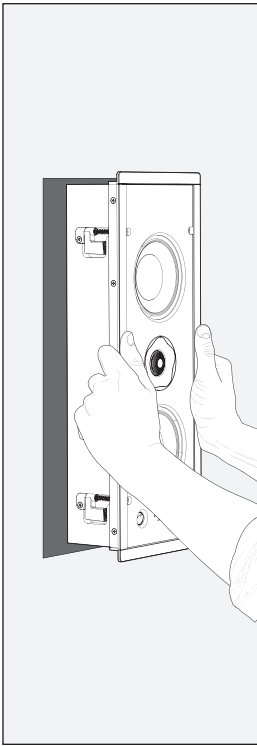

Fig. 1d
- 3) Gently push the assembly into the ceiling or wall hole (Fig. 1d).